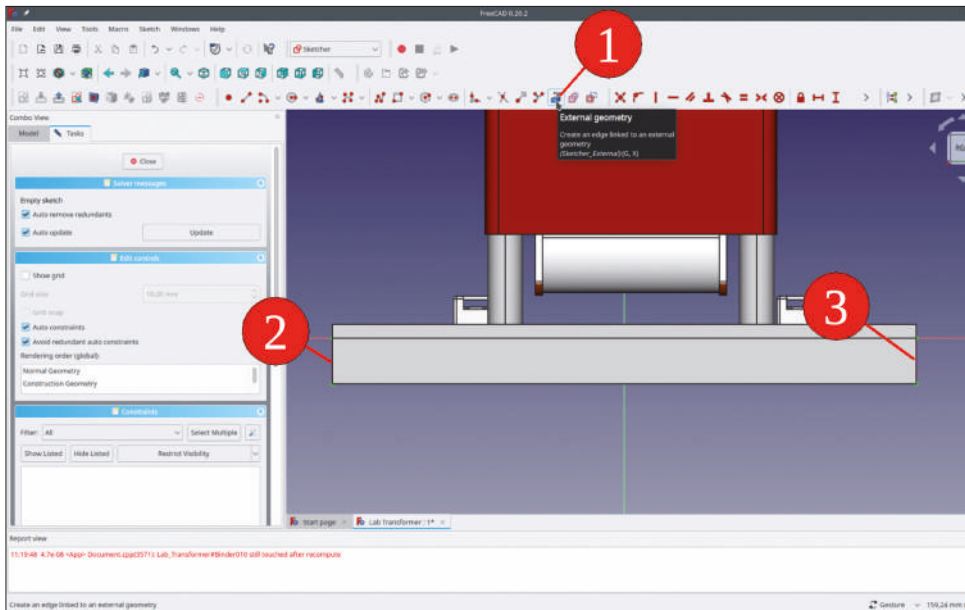

Figure 9-124
32. Click on the 'External geometry' tool button and mark both end faces of the spacer (Figure 9-124).